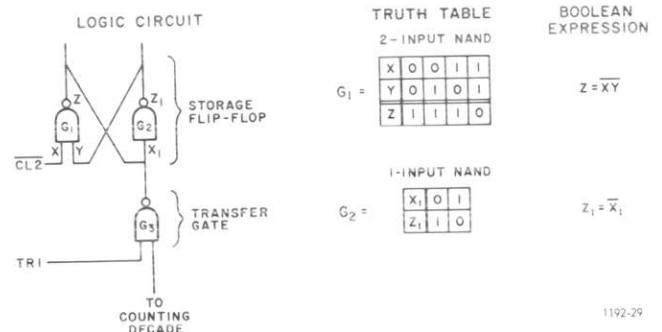

Figure 4-5. Storage register operation.
**Storage Flip-Flops.** Details for each DTL storage flip-flop are shown in Figure 4-5. The outputs are NPN transistors, with the emitter grounded and the collector returned to +5 V through a 6-k $\Omega$  resistor.
**Non-Storage Mode.** When the storage on-off pushbutton switch on the rear of counter is set to off, the clear input  $\overline{CL2}$  is always in its 0 state and the transfer input, TR1, is always in the 1 state. (See Figures 4-5 and 4-6). If the output of the counting decade is in the 1 state, the output of transfer gate G3 is "0". As G1 and G3 are connected in parallel, the output of G1 is 0 and output of G2 is 1, and the input to G2 is 0. The storage flip-flop has the same state as the counting flip-flop. If the counting flip-flop goes to its 0 state, the output of G3 is 1 and it will no longer pull down the output of G1, so the storage flip-flop will go to its natural state. With  $\overline{CL2}$  in its 0 state the output of G1 is 1 and, as G3 output is 1, the input to G2 is 1 and the output goes to 0. Thus, the storage flip-flop has the same state as the counting flip-flop during the count, reset, and display modes.